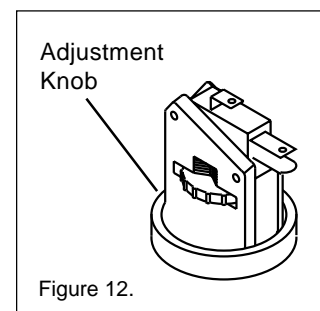

Figure 12.
5. Turn the adjustment knob clockwise or away from the micro-switch, until the heater shuts down; see Figure 12.